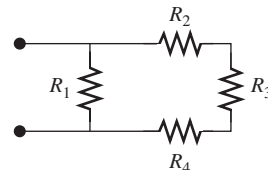

FIGURE P3.3 Circuit for Problem 3.3.
3.3 (B) Identify which resistors are in parallel and which are in series in Figure P3.3.